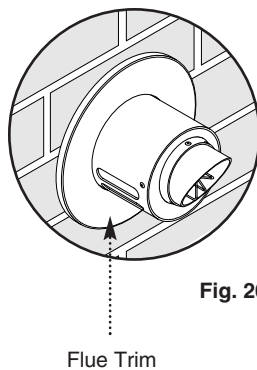

Fig. 26
11. Slide the flue assembly through the hole in the wall. Ensure angled inner end slopes downwards (Fig. 26).
14. The flue trim should be fitted once the installation is complete and the flue secure (Fig. 26). Making sure the brickwork is dust free and dry apply a suitable mastic to the inside of the trim and press against the wall finish,